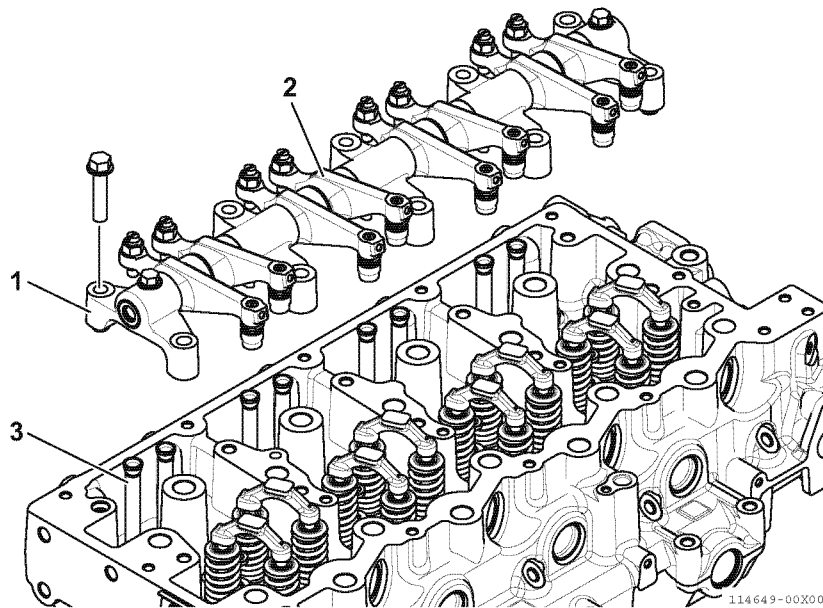

Fig.14-14
1. Remove the bolts that retain the rocker arm shaft support (1, Fig.14-14), and remove the rocker arm assembly (2, Fig.14-14) from the cylinder head.
2. Mark the push rods so that they can be reinstalled in the original positions. Remove the push rods (3, Fig.14-14). For the disassembly procedure of the rocker arm assembly, see 1402-02-01-02 "Disassembling the Rocker Arm Assembly".